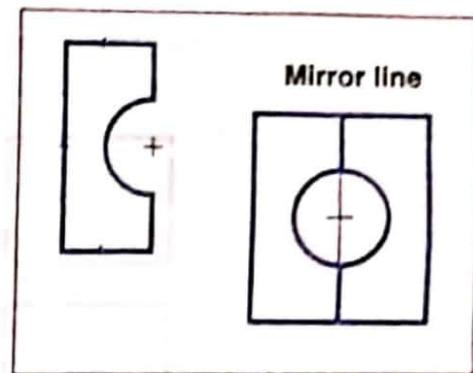

Fig. 19.25 Use of mirror command
- (vi) Press enter, see Fig. 19.25.